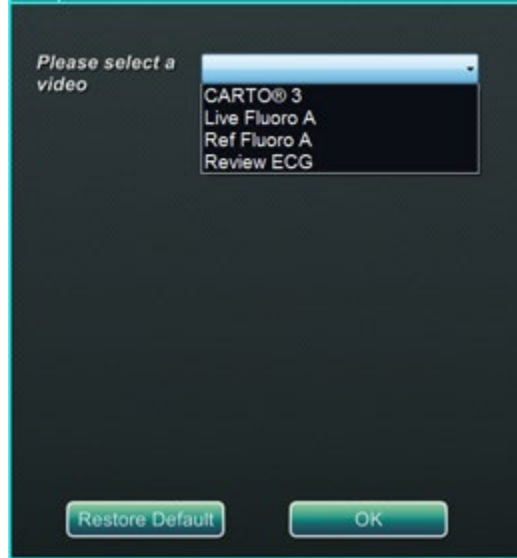
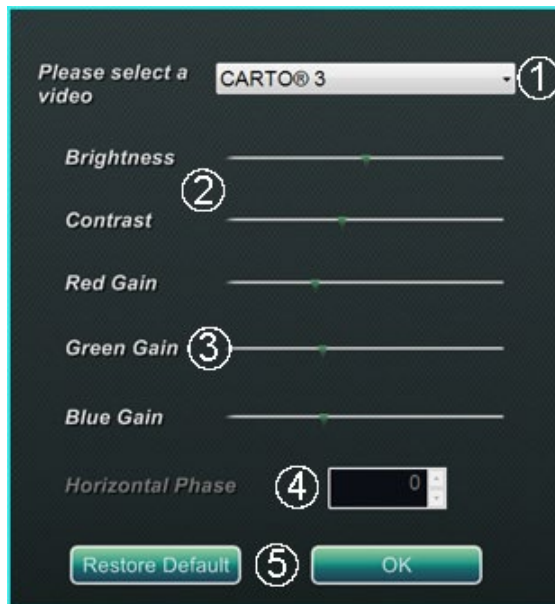

Figure 27. Configure Video
Figure 28. Configure Video
Clicking the **Configure Video** button displays the dialog shown in **Figure 27**. Clicking the down arrow, highlighting a video source, and clicking **OK** displays the additional dialog shown in **Figure 28**.
Configure Video dialog guide (Figure 28)
- ① **Please select a video.** Use the drop-down box to select the video source to configure. In the Figure 28 example, “*CARTO 3*” was chosen. Always ensure the video source is visible on the screen. If necessary, first change the layout to display the source you wish to configure.
- ② **Brightness and Contrast options.** Move the green arrow along the line to change the designated feature. Changes are immediately visible and available for review.
- ③ **Gain (Red, Green, Blue) options** (*not available for NTSC or analog x-ray*). Move the green arrow along the line to change the designated feature. Changes are immediately visible and available for review.
- ④ **Horizontal phase** (*available for VGA or analog x-ray only*). Click or scroll the up or down arrow to change the video display’s pixel alignment. Changes are immediately visible and available for review.
- ⑤ **Save choice.** Review the chosen video source display, and then select **OK** to save changes, close the dialog, and return to the *Odyssey* Status display. *Or*, click **Restore Default** to cancel current changes for the selected source and review and change if needed.